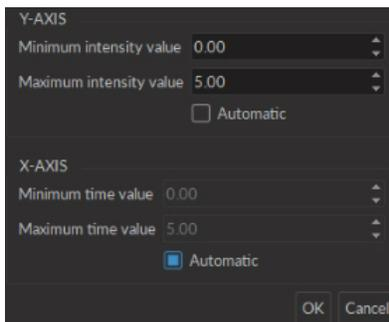

Figure 3.31: Set Custom Display Range Window
- The **Set Zoom** button opens the **Set custom display range** window (Fig. 3.31). This window allows the selection of the axis values associated with the **Reset Zoom** button. The **Automatic** option will choose values to display all loaded data.